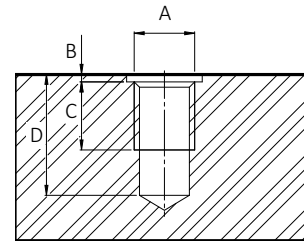

Figure 2: Mounting threads for non-Cool models
1. Mount the camera to the base using suitable M4 screws at 2.7 Nm maximum torque for a thread engagement (C) of 6 mm between screws and mounting threads, see Figure 2. For details, see your model's technical drawings.
1. Mount the camera to the base using suitable M4 screws at 3.4 Nm maximum torque for a thread engagement (C) of 7 mm between screws and mounting threads, see Figure 2. For details, see your model's technical drawings.